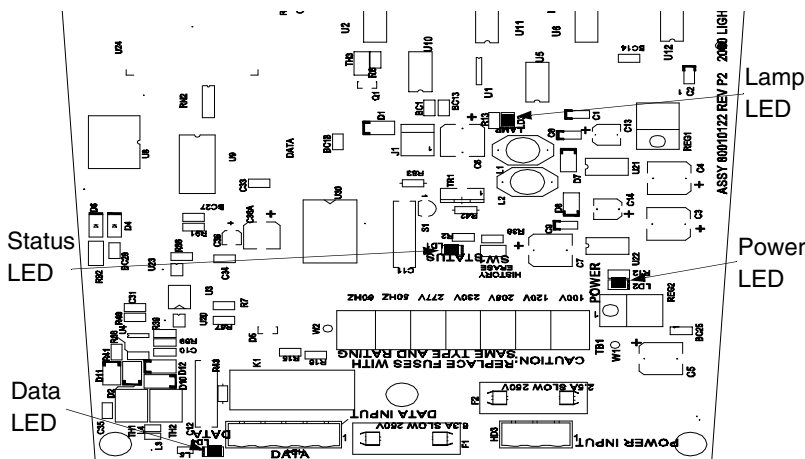
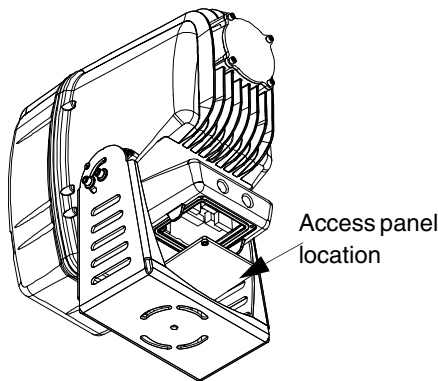

Figure 3-2 Status LEDs on EC-2 logic board
Figure 3-3. Logic board access
Figure 3-2 shows the four Status LED's on the EC-2 logic board as viewed through the access panel. See Table 3-3 for a description of the status LEDs. See Figure 3-3 on page 3-5 for location of access panel to logic board.
3. Locate the access panel retaining screws (see Figure 3-3).